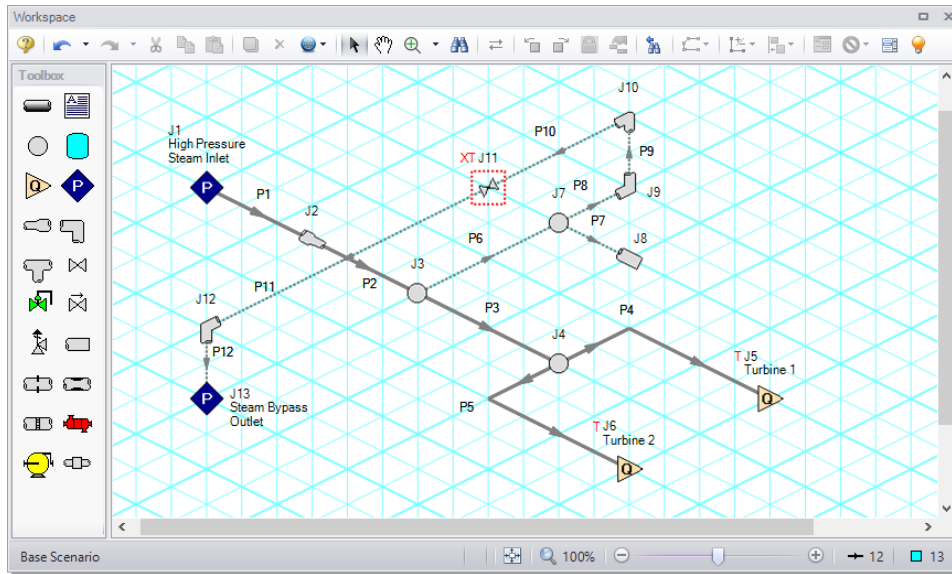

Figure 1: Isometric layout with the grid shown
3. Place the junctions as shown in Figure 1.